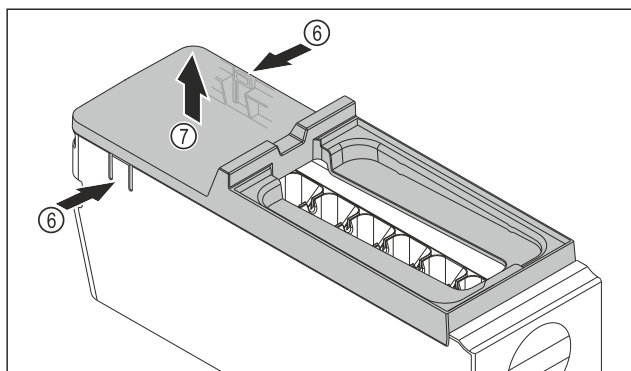

Fig. 166
- Removing the cover of the EasyTwist-Ice body: With one hand, press the tabs Fig. 166 (6) on both sides of the EasyTwist-Ice body.
- With the other hand, remove the cover Fig. 166 (7) upward.